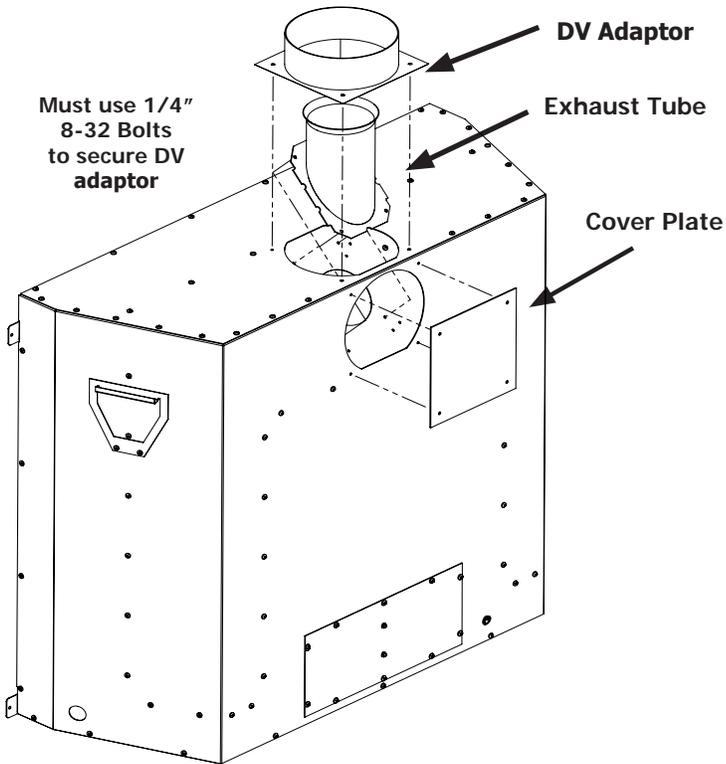

Figure 13. Vent Conversion - Step 1
Step 1: Using a T-20 screwdriver remove the DV Adaptor, Exhaust Tube, and cover plate (12 screws total) as shown in Figure 13.